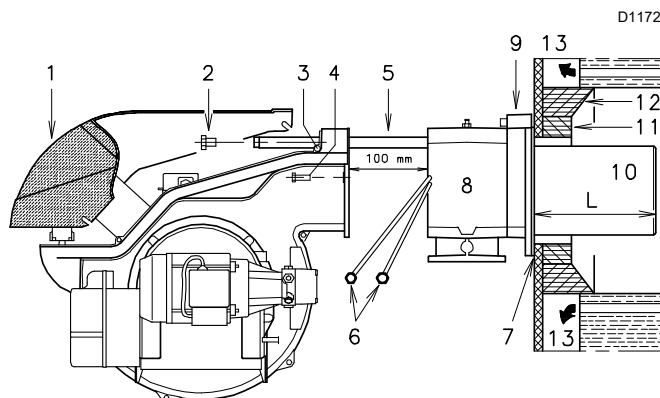
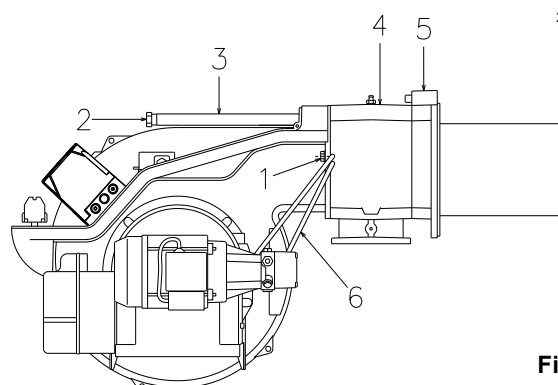

Fig. 11
Fig. 17
For boilers with a water-cooled front piece, a refractory lining 11)-12)(Fig. 11) is not necessary, unless expressly requested by the boiler manufacturer.
Separate the combustion head from the rest of the burner (Fig. 11):
Once this operation (if necessary) has been carried out, fix the flange 9)(Fig. 11 on page 18) to the boiler plate, interposing the insulating gasket 7)(Fig. 11 on page 18) supplied. Use the 4 screws, also supplied with the unit, after protecting the thread with anti-seizing product.
- Reassemble the burner on the guides 3)(Fig. 17) at about 100 mm from the pipe coupling 4), burner in the position shown in Fig. 11 on page 18;
- insert the electrode cables and then slide the burner up to the pipe coupling, the burner in the position indicated in Fig. 17
- refit screws 2)(Fig. 17) on slide bars 3);
- reconnect the light oil pipes by screwing the two fittings 6)(Fig. 11 on page 18).